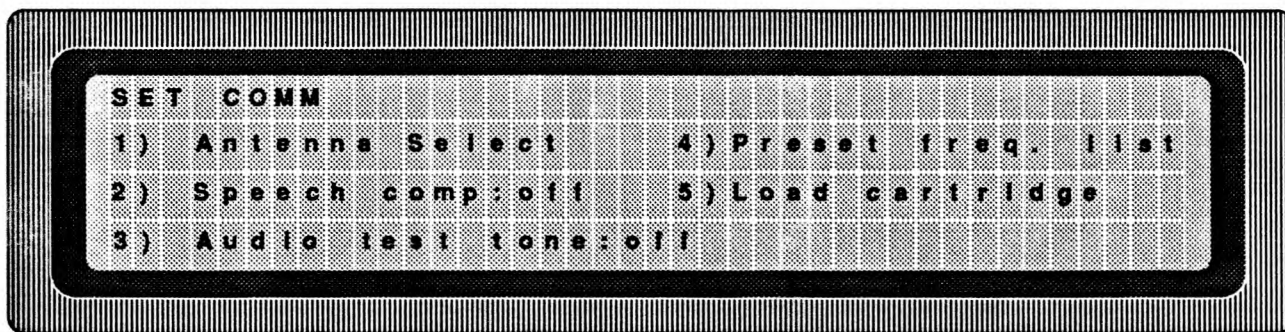
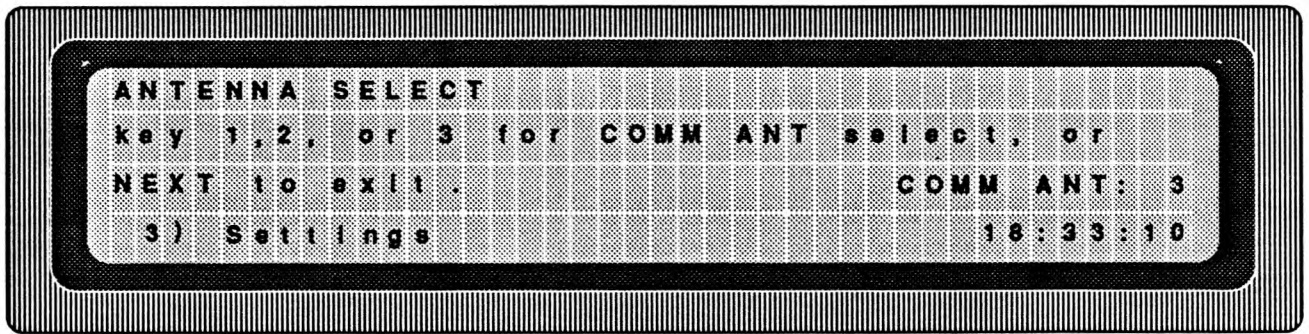

Figure 3-14. COMM Transmit Parameters
Figure 3-15. Antenna Select Display (Communications)
3-6.1 MENU. To set the operating parameters for fixed-frequency communications, set the MODE switch to SET COMMunications (see Figure 3-14). The menu shows these choices:
a. **ANTENNA SELECT.** This brings up another menu from which the comm antenna may be chosen. Refer to paragraph 3-6.2 and Figure 3-15.
3-6.2 **COMM ANTENNA SELECT.** The communications antenna select display (Figure 3-15) appears when “1” is pressed on Figure 3-14. The antenna selection feature is provided to control an external BR 7039 Antenna Switch when multiple antennas are used. To select the antenna to be used during comm transmissions, press 1, 2, or 3; the current selection is shown next to COMM ANT. If the external BR 7039 Antenna Switch is used, the comm antenna will be connected to the TCS-5 RF power amplifier during communications transmissions; during idle periods of no transmissions, the comm antenna will be connected to rear-panel receiver antenna connector J10. The antenna selection has no effect on the transmitter RF output on J9.
3-6.3 MANUAL ENTRY OF PRESET FREQUENCY LISTS. Selection 4 on the SET COMM menu (Figure 3-14) can be used to manually enter and use frequency lists for fixed frequency communications.
3-6.4 ENTRY OF FREQUENCY LIST USING THE CARTRIDGE READER. Selections 4 and 5 on the SET COMM menu (Figure 3-14) can be used to enter and use preset frequency lists from a data cartridge for fixed frequency communications. To load and use a list, a Cartridge Reader must be properly connected to the TCS-5 (refer to section II, Installation).
a. Place the TCS-5 in SET COMM mode. The display will appear as in Figure 3-14.
b. Select item 5, Load Cartridge.